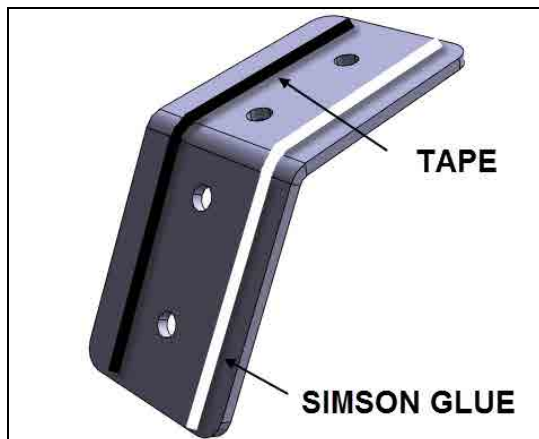

FIGURE 3: PART NO. 261433
- 4) Using anti-silicone (or alcohol), properly clean the back of the reinforcement brackets (figure 3 & 4).
- 5) Apply one (1) strip of double face self-adhesive tape onto both reinforcement brackets (figure 3 & 4).
- 6) Apply one (1) triangular shaped Δ ($5/16"$ ↔ x $3/8"$ ↑) bead of Simson glue on both reinforcement brackets. Cut the applicator tip in order to obtain the proper shape and dimensions (figure 3 & 4).